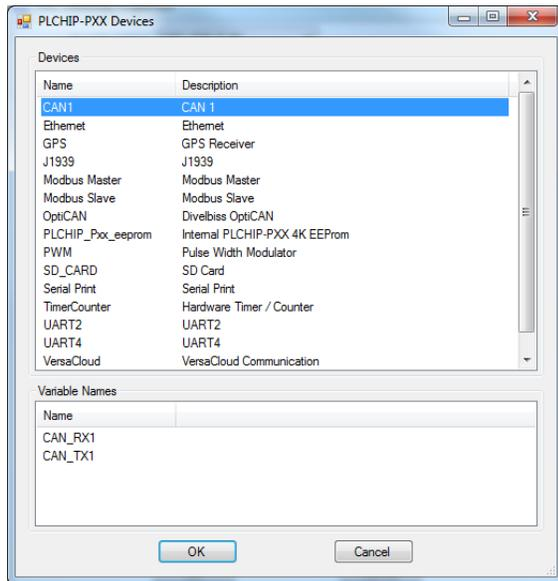

Figure 2-3 - Install CAN1 Device
4. Locate **CAN1** in the *Devices* pane. Click to select (highlight) CAN1. Refer to Figure 2-3. Click **OK**.